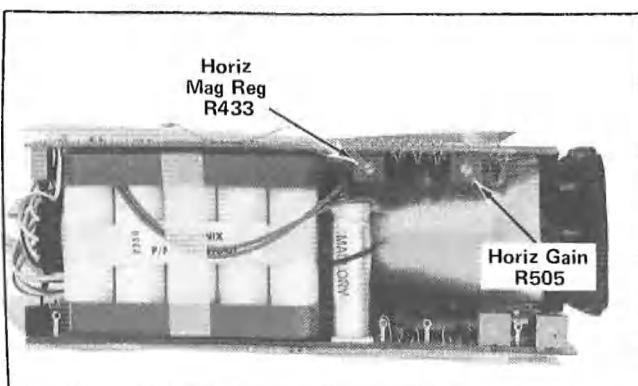

Fig. 5-8. Location of Horizontal Gain and Magnifier Registration adjustments.
f. Adjust Horizontal Gain adjustment R505 for a five-division display. See Fig. 5-8.
- d. Adjust the Mag Regis adjustment R433 for less than one division shift from the 1X to the 10X position. See Fig. 5-8.